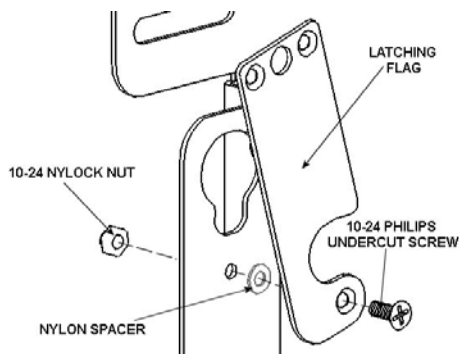

Figure 2
1. Secure latching flag to the inside mounting hole of the mount using the 10-24 x .5 FH undercut screw, Nylon washer, and 10-24 Nylock nut (see Figure 2). Tighten until friction will hold the flag in place.